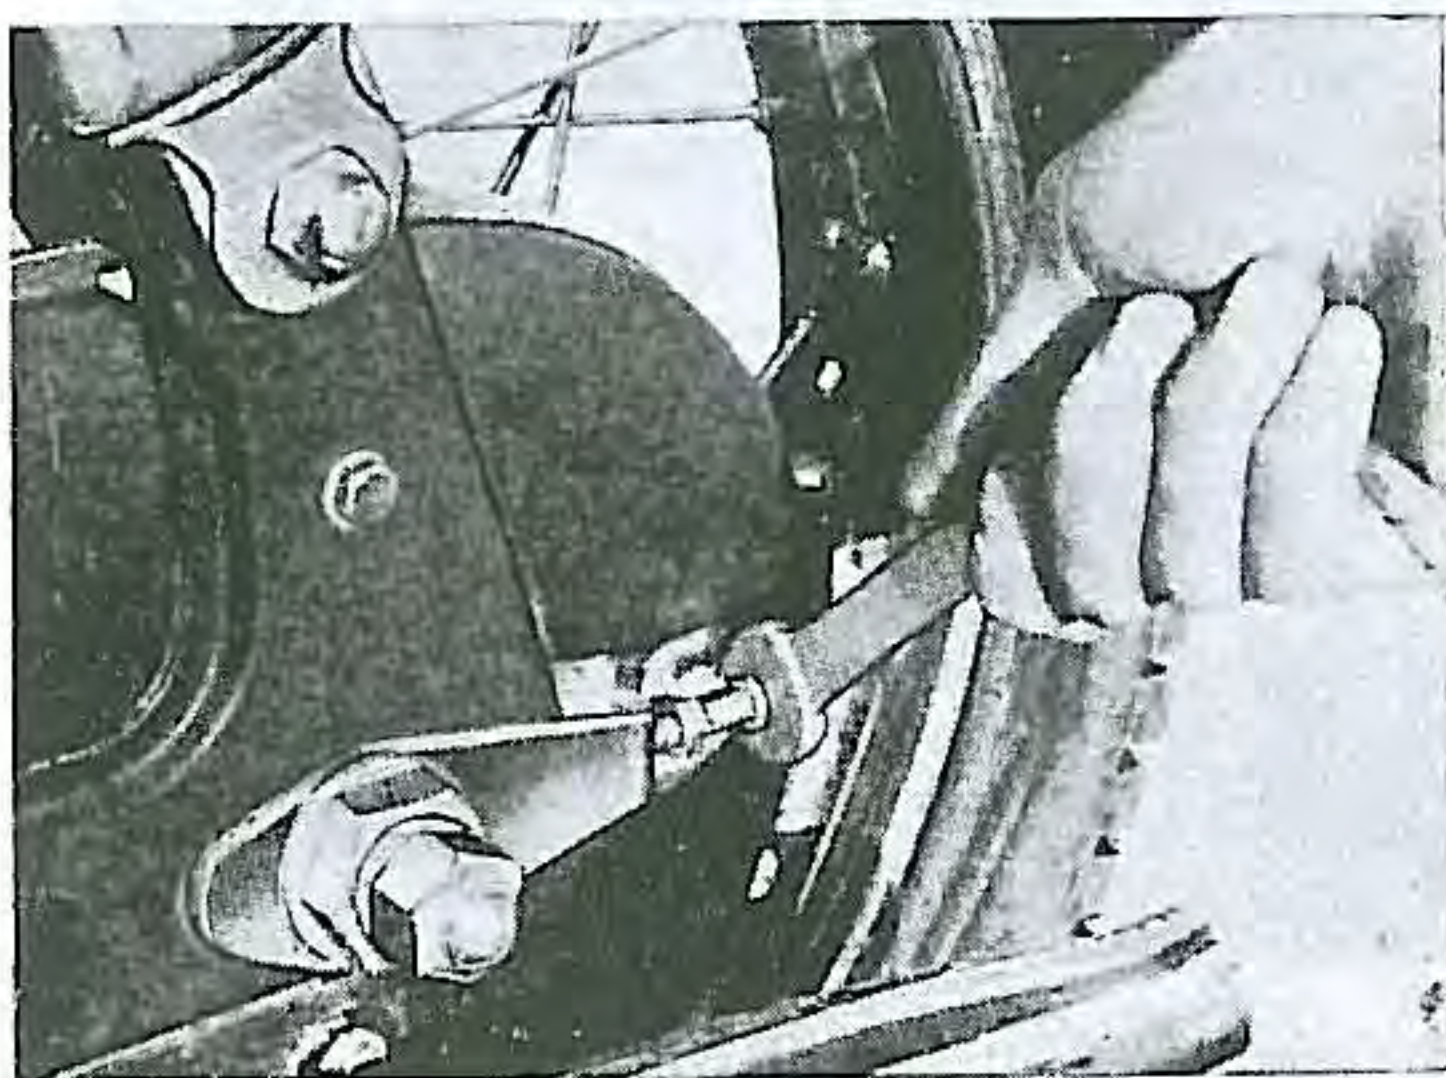

Fig. IV-8. Adjusting drive chain adjuster
- (2) To adjust the drive chain, loosen the medium sized axle nut and large axle sleeve nut and turn the adjuster nut in the direction needed. Turn the nut in to tighten the drive chain and out to loosen it. (Fig. IV-8)